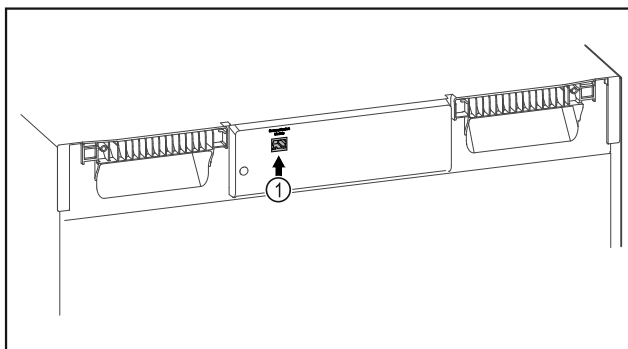

Fig. 73
- SmartModule Fig. 73 (1) is in use.